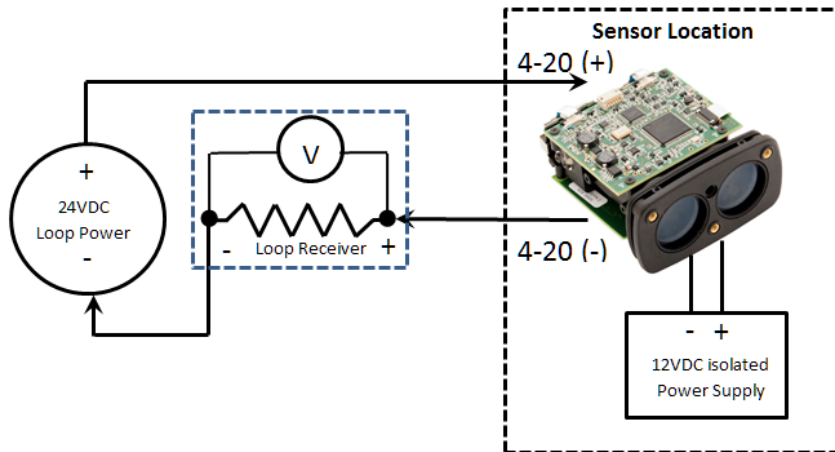
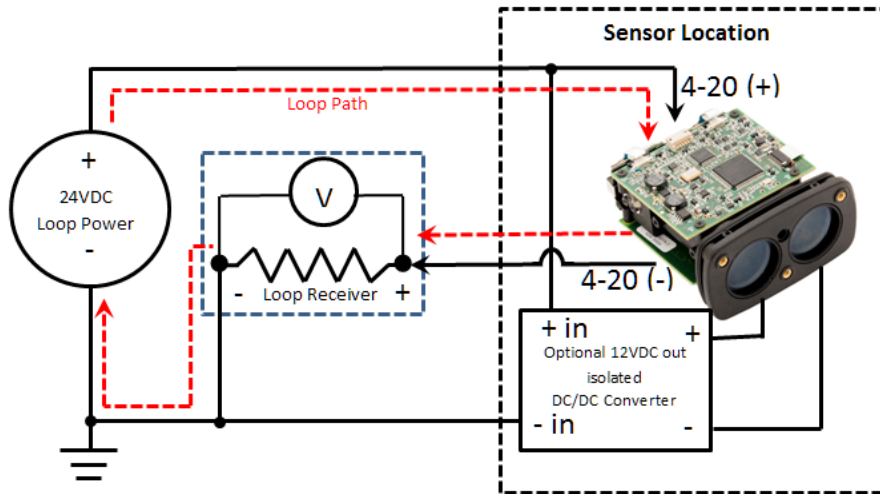

Figure 2
Figure 3
1. **Two Wire:** One wire will be the 4-20(+) and the other will be the 4-20 (-). A second isolated power source would be used to power the TruSense sensor. See Figure2:
2. **Three Wire:** In this wiring configuration, at the Transmitter location you would have + 24VDC, Common (Ground) and Receiver 4-20 (+). Figure 3 shows leveraging the 24VDC loop power to a DC/DC isolated converter to power the TruSense. The current path for the 4-20 Loop is shown in red. **Important:** The Loop power supply must have a minimum current rating of 350mA to provide enough current for the 4-20 Loop and TruSense S_30. If the Loop Power supply is shared, it must be rated to supply enough current for each sensor 4-20 Loop.
In summary, in all three wiring configurations, the current loop has only one path through the Transmitter (TruSense S_30) and Receiver in relationship to Loop power. Figures 3 and 4 demonstrated the use of a DC/DC isolated power converter to provide power to the TruSense S_30. An inexpensive DC/DC isolated converter was tested with the TruSense instrument which was RECOM REC5-2412SRW/H2/A. This device provides 2kVDC isolation and will tolerate loop voltages from 18 to 28 volts DC. **A separate isolated power supply can be used to replace the user supplied DC/DC converter as long as it is isolated from the 4-20 Loop.** For purchase, LTI has a 110/220/AC to 12DV power supply available (OEM /Ruggedized housing part number 7054691). Figure 2 shows the connection. Note: Each sensor would need its own power supply.